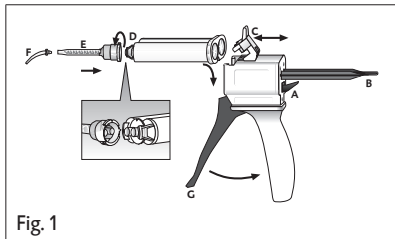

Fig. 1
1. Push up the lever [Fig. 1, Pos. A] at the back of the Automix-Dispenser and pull back the slide [Fig. 1, Pos. B] completely.
2. Lift up the plastic lever [Fig. 1, Pos. C], insert the cartridge and lock it using the plastic lever [Fig. 1, Pos. C].
1. Remove the cartridge cap [Fig. 1, Pos. D] or used mixing tip by turning it 90° counterclockwise, and discard it.
2. Attach a new mixing tip [Fig. 1, Pos. E].
4. Attach an intraoral tip [Fig. 1, Pos. F].
- ▶ The material is mixed in the mixing tip by pulling the trigger [Fig. 1, Pos. G] of the Automix dispenser and it is then applied directly.
2. Lift up the plastic lever [Fig. 1, Pos. C] and remove the cartridge.